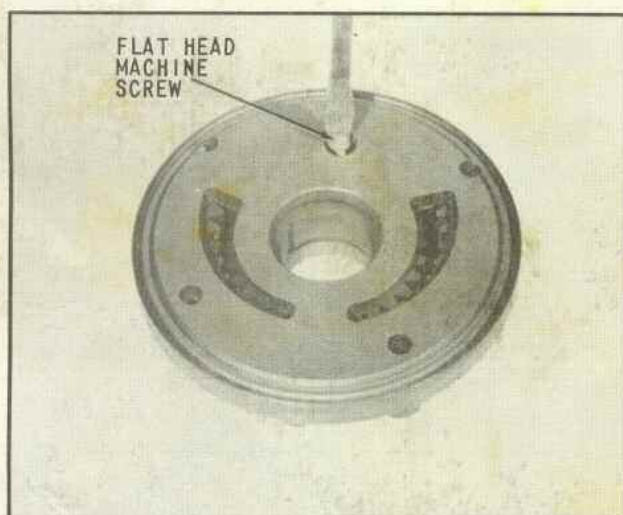

Fig. 96 Installing Flat Head Machine Screw through Backing Plate
10. Install the flat head machine screw and tighten to final torque of 25 to 35 pounds-inch, (Fig. 96). Check rotation of gears as assembled in pump housing; disassemble and inspect if gears do not turn freely.